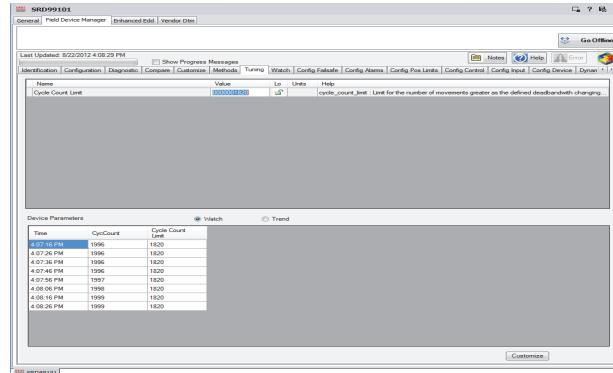

Figure 5. Tuning Screen
- The Tuning tab (Figure 5) is an on-line continuously updating screen with a top section used to adjust or change up to eight instrument variables and a bottom section to watch the results on up to eight variables in either trend line or table format. The adjustable variables placed on the top area are typically used to change instrument state, mode or trigger a device method such as auto starting or calibration of a valve positioner.